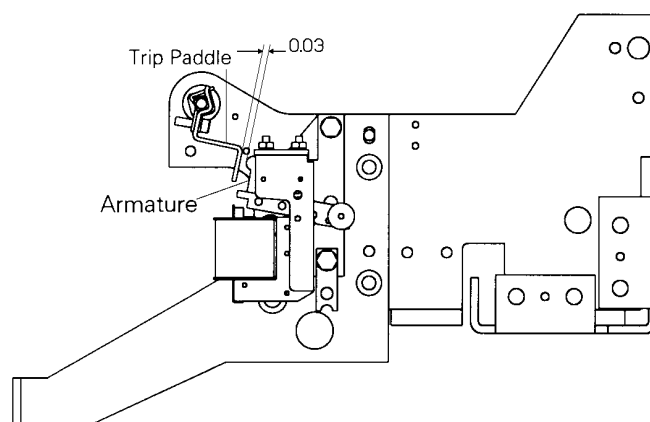

Figure 8-9. Installed shunt trip in side view.
4. Figure 8-9 shows the installed shunt trip in side view. With the breaker mechanism reset, there must be clearance between the trip paddle and armature of 0.03 inch minimum. If adjustment is necessary, bend the trip paddle to achieve this distance.